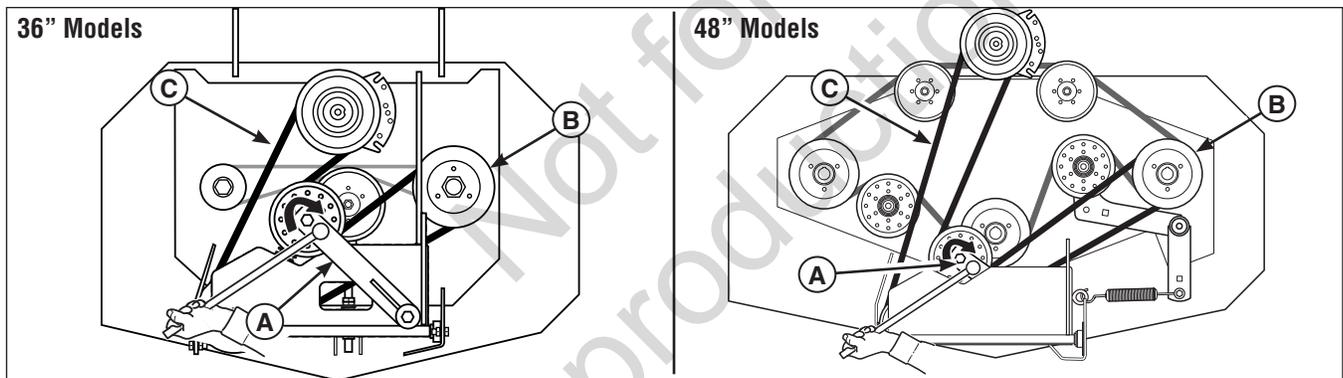
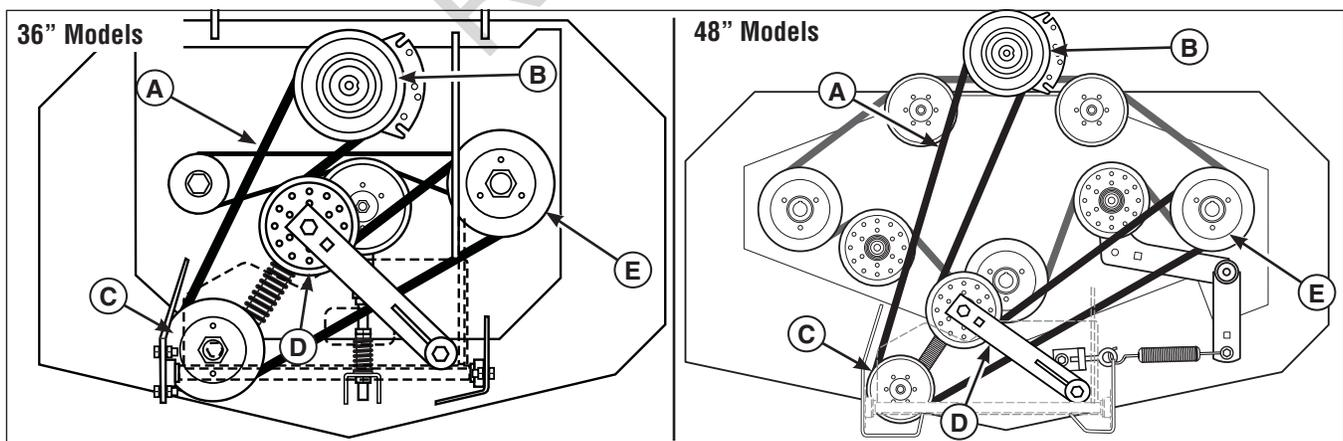

Figure 44. Removing the PTO Drive Belt
Figure 45. PTO Drive Belt Routing
4. Using a 1/2" breaker bar, place the square end in the square hole located in the end of the idler arm (A, Figure 44). Carefully rotate the breaker bar CLOCKWISE, which will relieve the tension on the belt exerted from the idler arm.
5. Slide the PTO drive belt over the edge of the left spindle pulley (B). Carefully release the tension on the breaker bar.
7. Install the PTO drive belt (A, Figure 45) on the PTO clutch pulley (B), the front idler pulley (C) and the idler arm pulley (D). Carefully rotate the breaker bar CLOCKWISE and install the belt on the left spindle pulley (E). Carefully release the tension on the breaker bar.